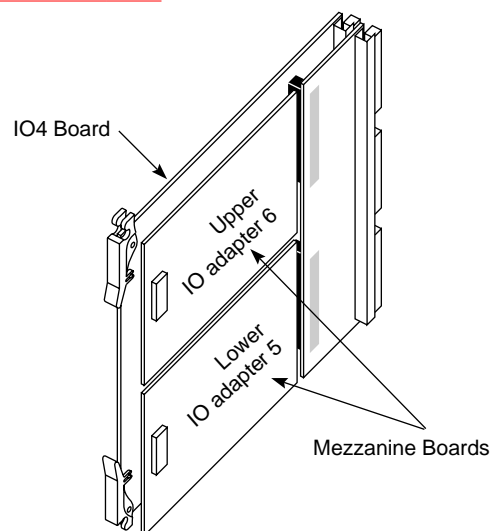

Figure 2-25 Upper and Lower Mezzanine Slots on IO4 Boards
- If the system has only one IO4 board, this is the location for the mezzanine board. The mezzanine board may be installed in either the upper or lower position on the IO4 board. Figure 2-25 illustrates an IO4 board with mezzanine boards in both slots.